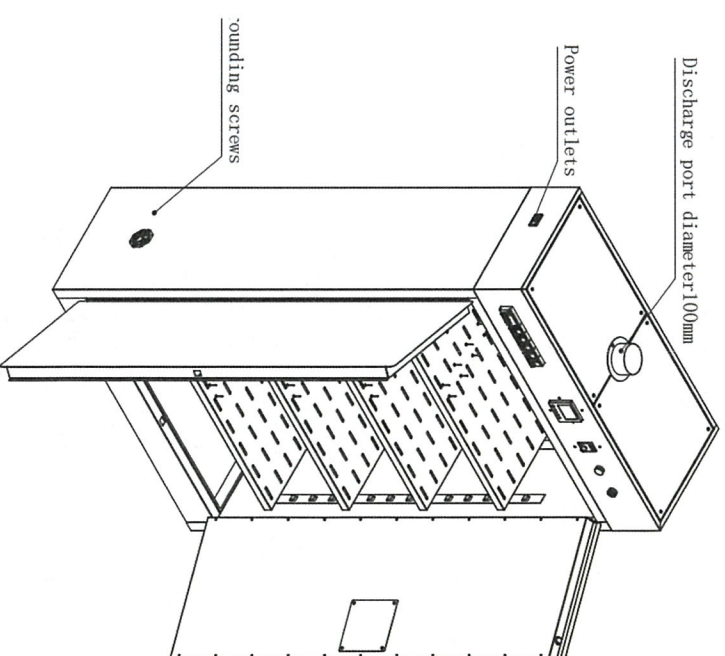

Figure 1
1. Power-on operation process: as shown in Figure 1, after the cabinet is placed in the designated position smoothly, use the compliant grounding wire to connect the grounding screw at the bottom of the left side of the cabinet to the designated grounding position of the building, use the key to open the cabinet door after the grounding is completed, take out the power cord equipped with the prefix in the cabinet and insert it into the pinzig power socket above the left side of the cabinet, and turn on the switch of the power socket to the energized state with the red light on. Users can connect the external exhaust according to the regulations of the local regulatory department, and can use PVC pipes, nylon cloth ducts and other pipes reserved at the top of the docking cabinet As shown in Figure.